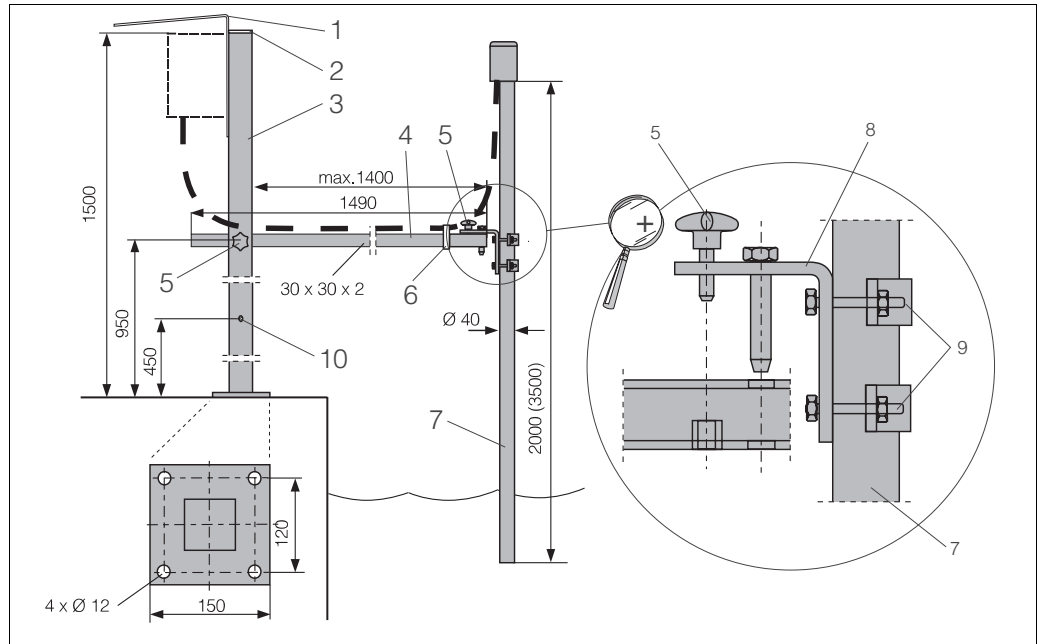

Fig. 3.7: Universal assembly support OYH 101-D or E
The preferable type of installation for strong or turbulent flow (> 0.5 m/s) in the basin or open channels is to secure the device to an **upright post and a securely mounted immersion tube** (Fig. 3.7). If the flow is very strong, a second transverse pipe (10) can be installed with its own pipe support.